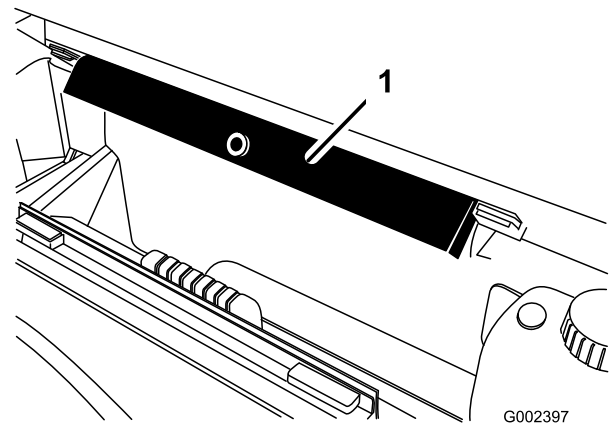

Figure 99
8. Remove the bed support from the storage brackets at back of the ROPS panel (Figure 99).